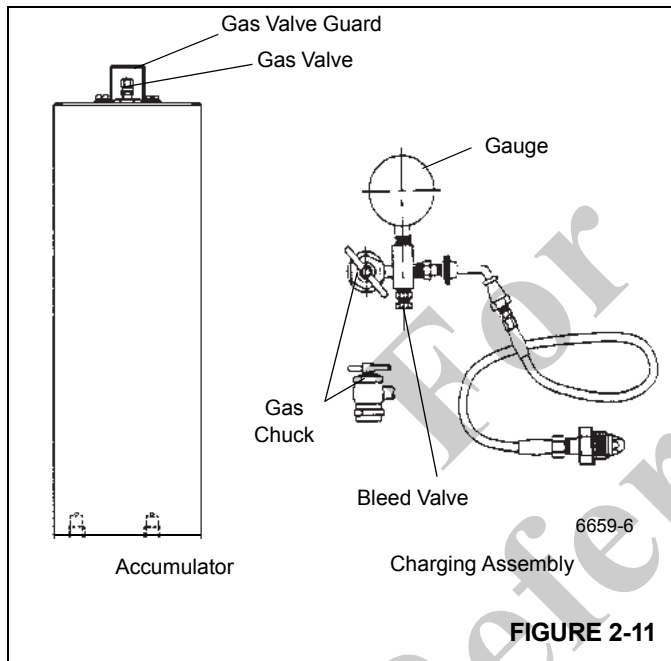

FIGURE 2-11
1. With the engine off, discharge all of the pressurized oil stored in the accumulators by depressing the service brake pedal on the cab floor several times. Remove the gas valve guard and cap on the accumulator (Figure 2-11).
2. Before attaching the gas charging assembly (Figure 2-11) onto the accumulator gas valve, back the gas chuck "T" handle all the way out (counterclockwise).
6. If the pressure is 1400 psi +50/-0 (9.7 MPa +0.4/-0), remove the charging valve assembly by turning the T-handle all the way out on the gas chuck and then opening the bleed valve (Figure 2-11).
1. With the engine off, discharge all oil stored in the accumulators by pushing the service brake pedal several times. Remove the gas valve guard and gas valve cap on the accumulator (Figure 2-11).
3. Before attaching charging assembly (Figure 2-11) to the accumulator gas valve, back the gas chuck T-handle all the way out (counterclockwise).
7. If the pre-charge pressure is higher than 1400 psi +50/-0 (9.7 MPa +0.4/-0), then close the nitrogen bottle valve and slowly open the bleed valve on the charging assembly (Figure 2-11) until the pre-charge pressure is correct.